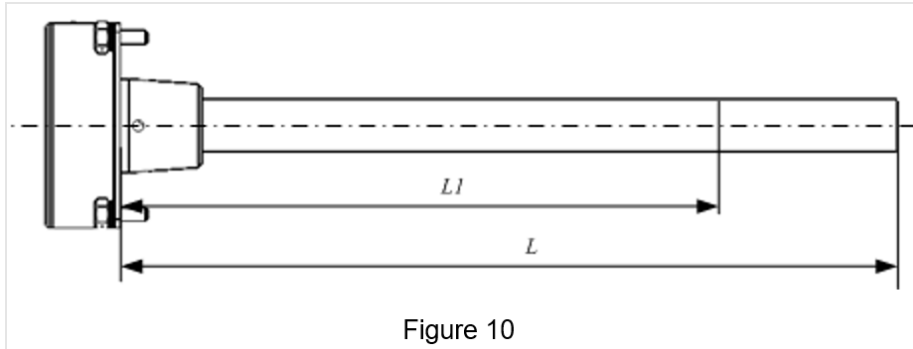

Figure 10
4) Cut the product at length $L1$ by a hack-saw so that the line of the cut is strictly perpendicular to the longitudinal axis of the product (Figure 10).